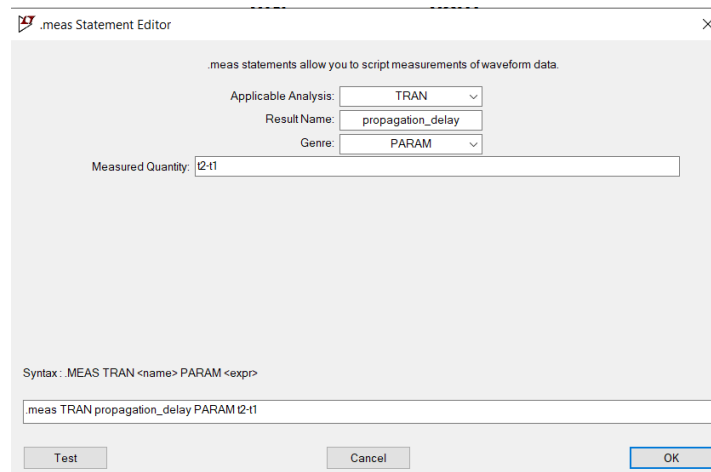

Figure 2.15 Measuring the propagation delay t2-t1
8. **Click the spice directive again but this time fill in the following entries listed below.** Figure 2.15 shows this setup. **When finished, click OK and place it on the schematic.**
The important lesson in this section is the process of extracting the effective switching resistance and the effective input capacitance. Just the process! To summarize this method, we simply model the input and output as two separate circuits. The output is a simple resistor, while the input is a simple capacitor as shown in Figure 2.15. So, if we want to determine the output resistance R_{NMOS} , we simply model the output of the transistor as a switch with R_{NMOS} . We place a capacitor at the output that is large enough for us to extract the propagation delay. We also know the equations to get the propagation delays (as well as rise and fall times) and then solving for R_{NMOS} is trivial. The same goes for the input of the transistor. It's mostly a capacitive component so we treat it as if it were some kind of capacitor as shown in Figure 2.19. This is indicated in the left side of Figure 2.18. Then we do the same method by attaching a series resistor that is high enough for us to extract the propagation delays. The output capacitance also plays an important role, but in most cases, it is neglected.